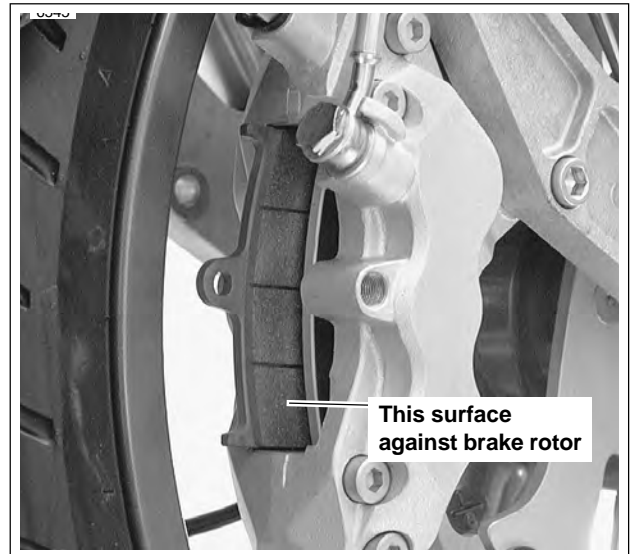

Figure 2-32. Installing Brake Pads
- See Figure 2-32. Insert brake pads from behind.